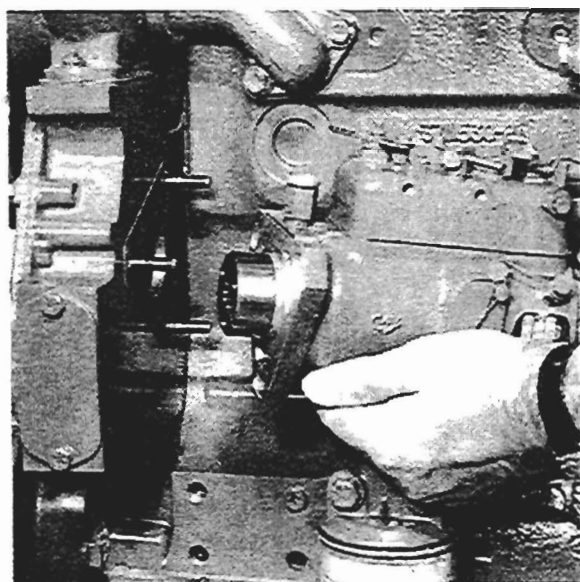

Fig. P9
6. Remove fuel injection pump (see fig. P9). If gear is still tight on fuel pump shaft, hold gear so that it does not drop and break the lug in timing case and come out of mesh. **Do not turn crankshaft with pump removed and gear loose in timing case.**